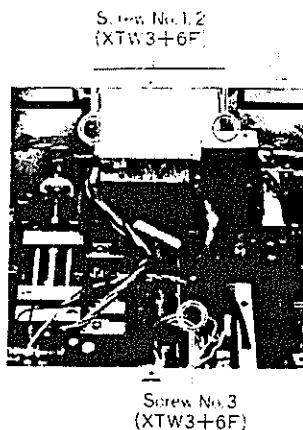

Fig. 7-1
3. Remove the three (3) screws (nos. 1~3) for the frequency counter, as shown in fig. 7-1.